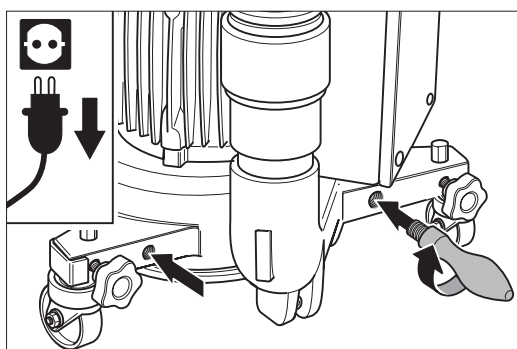

Fig. 30: The machine handle can also be screwed into the fan housing.
- 4 Screw the machine handle into the right-hand side or into the left-hand side of the fan housing and then tighten the handle firmly by hand (Fig. 30).